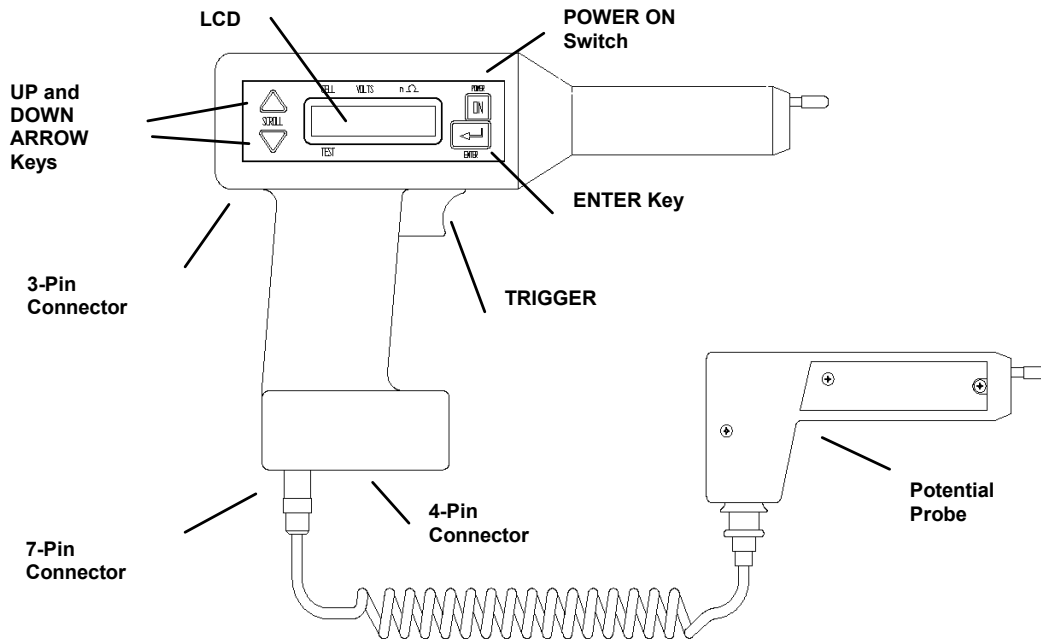

Figure 5-1: Receiver controls, connectors and indicators
- 2. Using the wand adapter cable, insert the wand into the 7-pin connector on the **receiver**. (See Figure 5-1 on page 24 for the location of the 7-pin connector.)